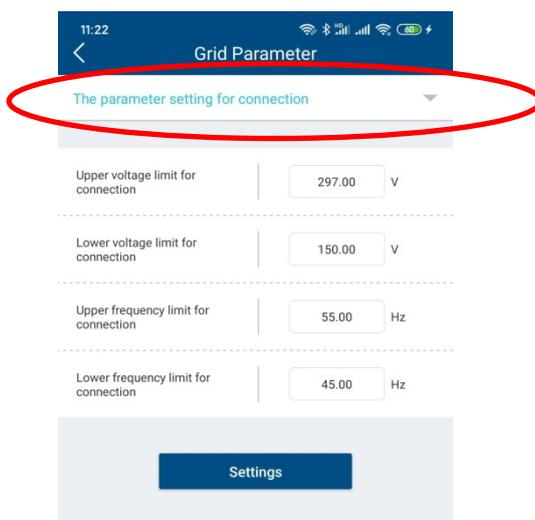

Figure 2-5-18 The parameter setting for connection
- The parameter setting for connection:** The inverter can set power-on parameters and reconnection parameters. These parameters include Upper voltage limit, lower voltage limit, upper frequency limit, lower frequency limit. As shown in Figure2-5-18.